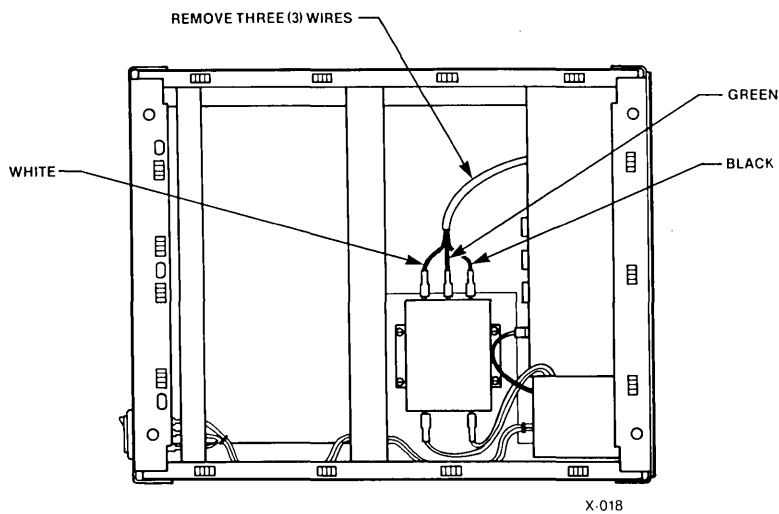

Figure 4-9. Filter 2 Location
7. Slide the Winchester drive forward until the three wires attached to filter 2 are accessible (refer to Figure 4-9).